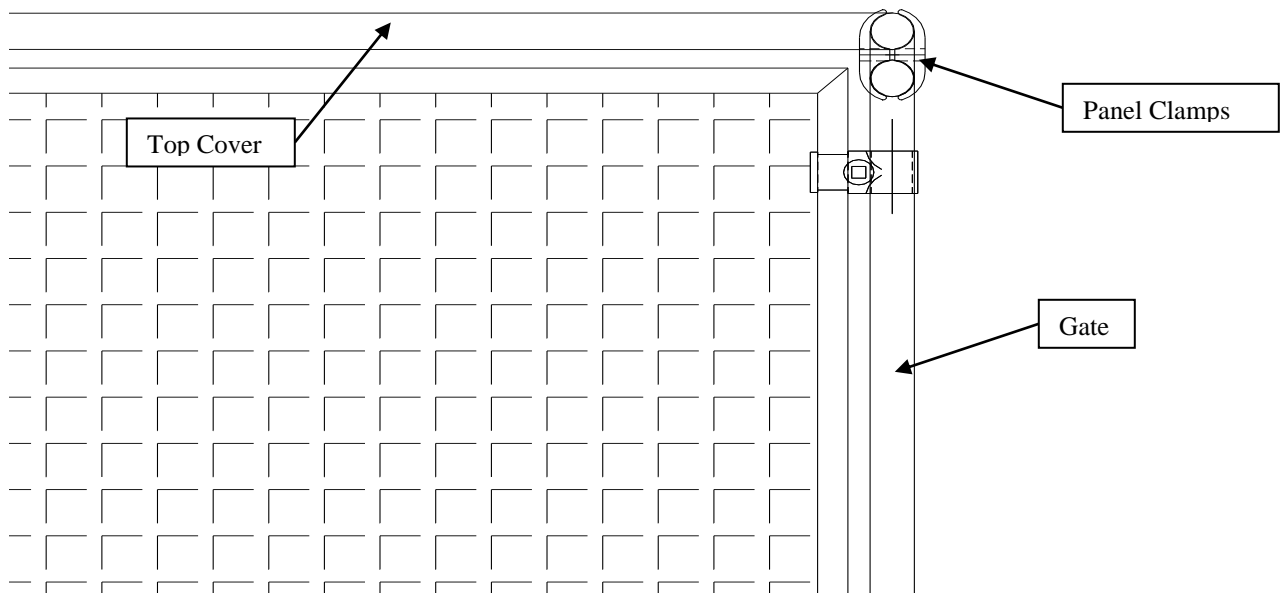

Figure 18.
3. Using panel clamps, 5/16"-18 x 1-3/4" galv. carriage bolts, and 5/16"-18 nuts, connect the front tube of the top covers to the top of the gate frames. See Figure 18.